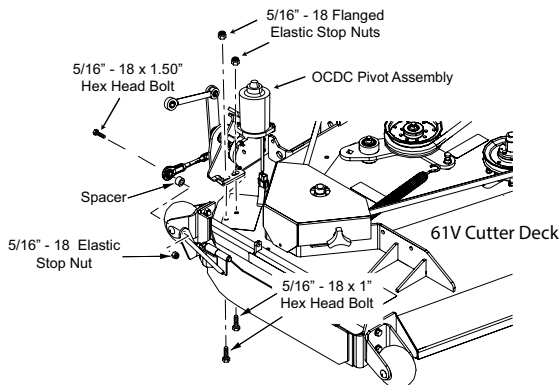

Figure 3-14. STCII/SVRII/STTII/SCZII /61V Pivot Install
1. Remove the discharge chute from the machine. See Figure 3-14.